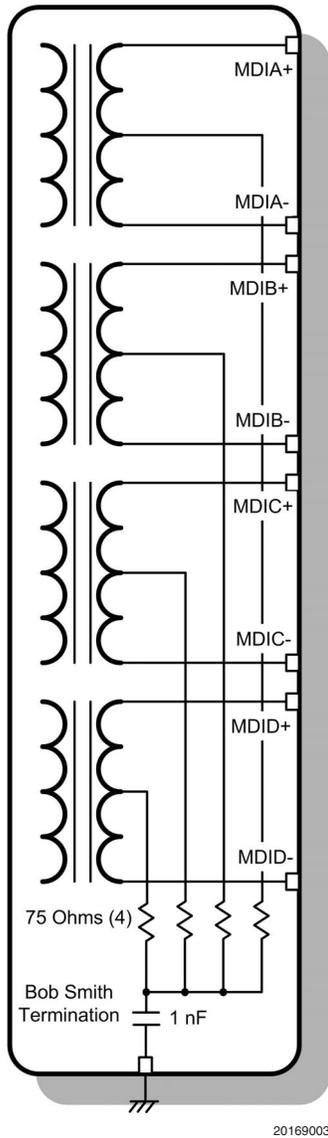
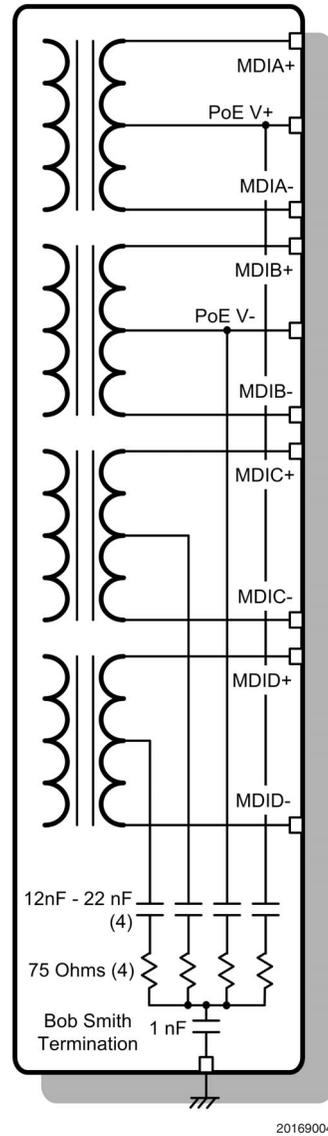

FIGURE 3. Legacy Ethernet Mag/Jack
FIGURE 4. PoE Capable Mag/Jack
together through 75-Ohm resistors. That prevents positive and negative terminals from being isolated in the PoE application (Figure 3). To make the transformers PoE capable, AC couplings were added in the Bob Smith termination to DC isolate each separate winding (Figure 4).
There are two sides to the Power over Ethernet system. The side that provides power is called Power Source Equipment (PSE) side, and the side that consumes power is called Power Device (PD) side. A detection scheme is designed to detect if there is PD connected at the destination. This prevents applying power to a legacy transformer shown in Figure 3. To detect PD device, the PSE applies a DC voltage between 2.8V to 10V across the power delivering lines. Based on the loop current, PSE determines if there is a PD connected. The PD should present a resistive load between 19 K to 27 K Ohms with a parallel capacitor 120 nF or less as a signature.